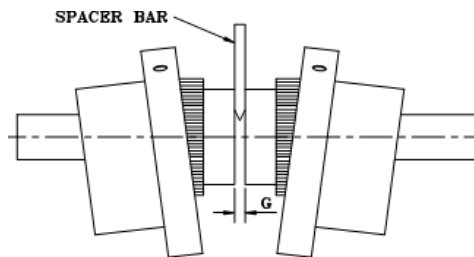

Fig. 4 HUB Mounting
- Mount hubs over the shaft by maintaining gap 'G' as mentioned in table 2 by using a spacer bar equal in thickness to the required gap.(Fig.4)